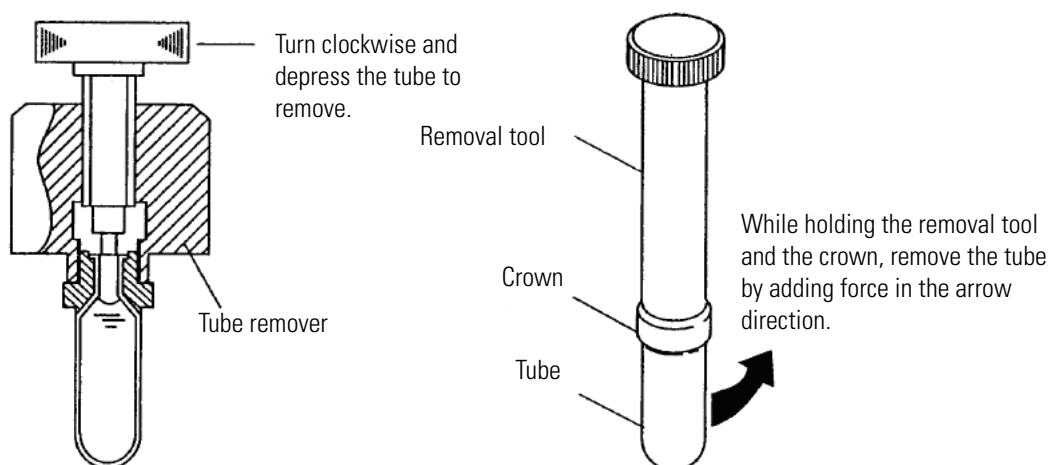

Figure 3-3 Removing Crown from Re-Seal and Cone-top tubes
4. Remove tubes with tweezers or the tube setter. In case of Re-seal tubes or Cone-top tubes, remove the tubes from the rotor as follows. Remove tubes from the rotor with the removal tool. Before collecting samples, set the assembly of the tube and the crown to the tube vise. And then remove the plug with the tube setter (C). When removing the crown from the tube after collecting the samples, use the tube remover provided with the tube vise as shown in Fig. 3-3.